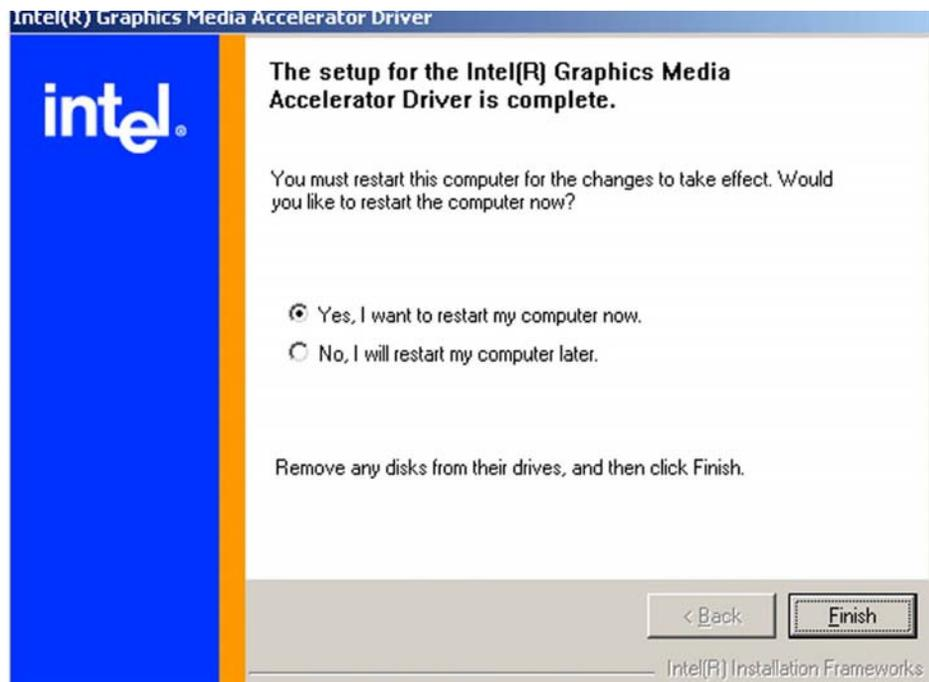

Figure 6-8: GMA Driver Installation Complete
Step 5: After the driver installation process is complete, a confirmation screen shown in **Figure 6-8** will appear.
Step 6: The confirmation screen shown in **Figure 6-8** allows you to restart the computer immediately after the installation is complete or to restart the computer later. For the settings to take effect the computer must be restarted. Once you have decided when to restart the computer, click the “**FINISH**” button.